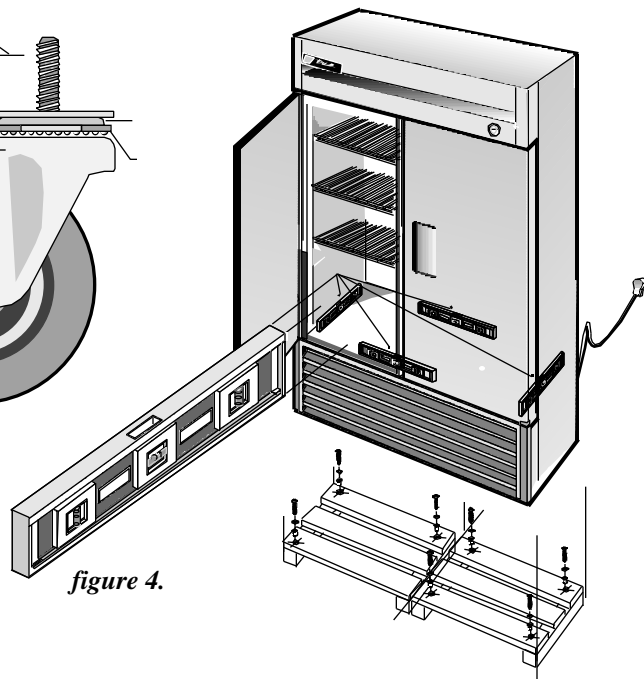

figure 4.
**C.** The cooler should be leveled front to back and side to side with a level (see figure 4). Place the level in the interior floor of the unit in the four positions illustrated.